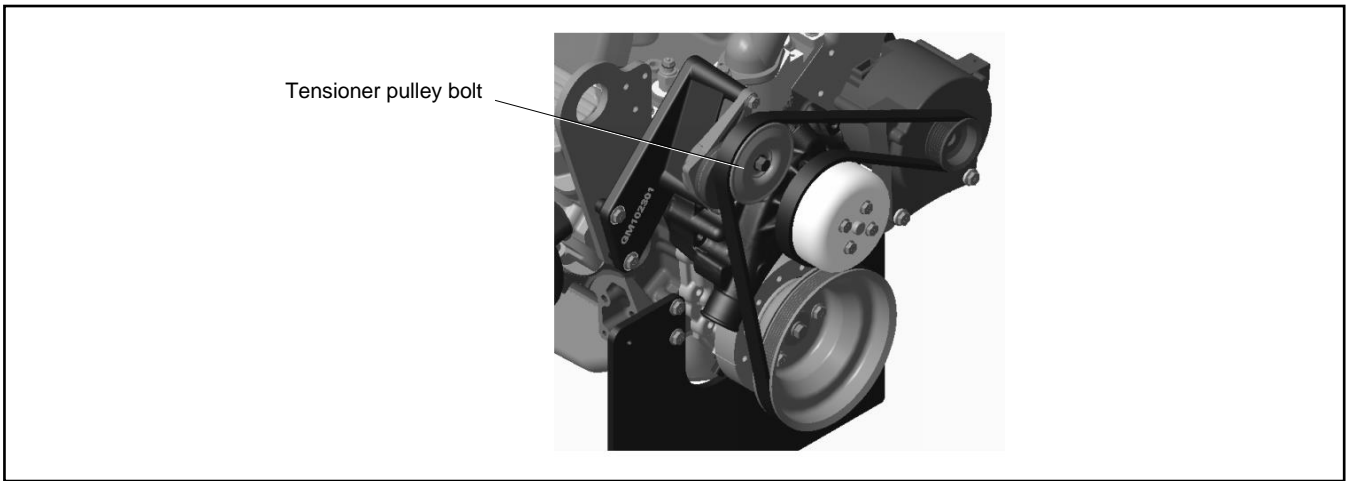

Figure 32 Tensioner Location
1. Use a socket wrench to turn the tensioner pulley clockwise against the spring force. See Figure 32.